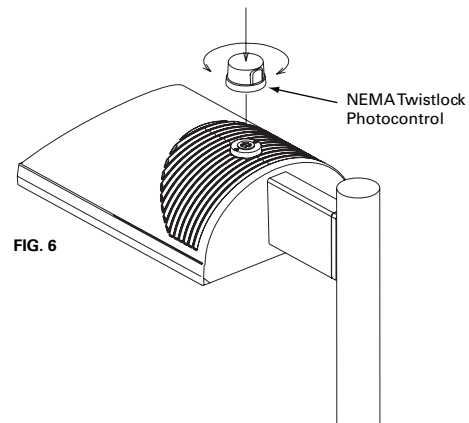

FIG. 6
1. The photocontrol is mounted on top the housing. **FIG. 6**